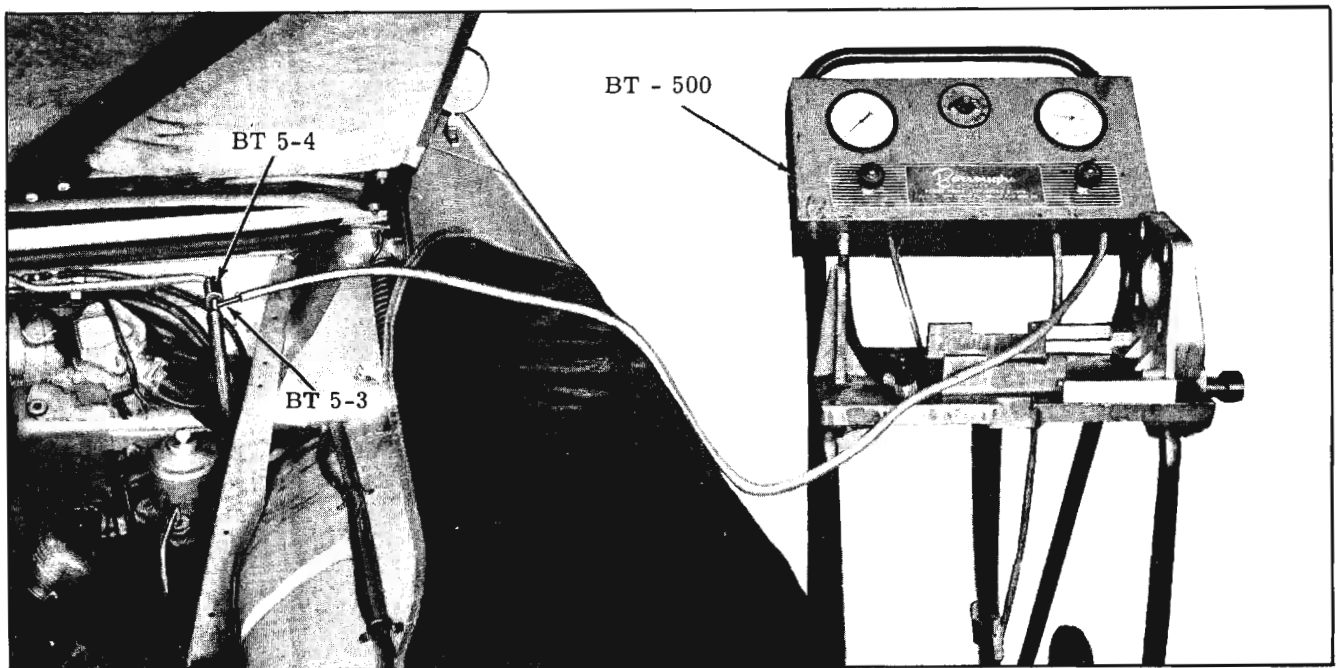

Fig. 7-137 Testing Vacuum System (Complete)
1. Connect tester hoses as shown in Fig. 7-137.